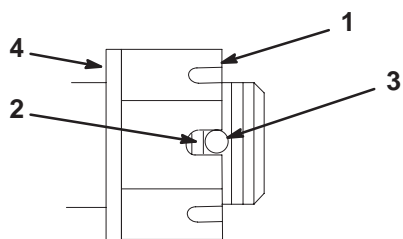

Figure 41
3. Torque slotted nut to 125 ft-lbs (169.5 N•m) (Fig. 41).
4. Check the distance from bottom of slot in nut to inside edge of hole. Two threads or less should be showing (Fig. 41).
5. If more than two threads are showing remove nut and install washer between hub and nut (Fig. 41).
6. Torque the slotted nut to 125 ft-lbs (169.5 N•m) (Fig. 41).
7. Tighten nut until the next set of slots line up with the hole in the shaft (Fig. 41).